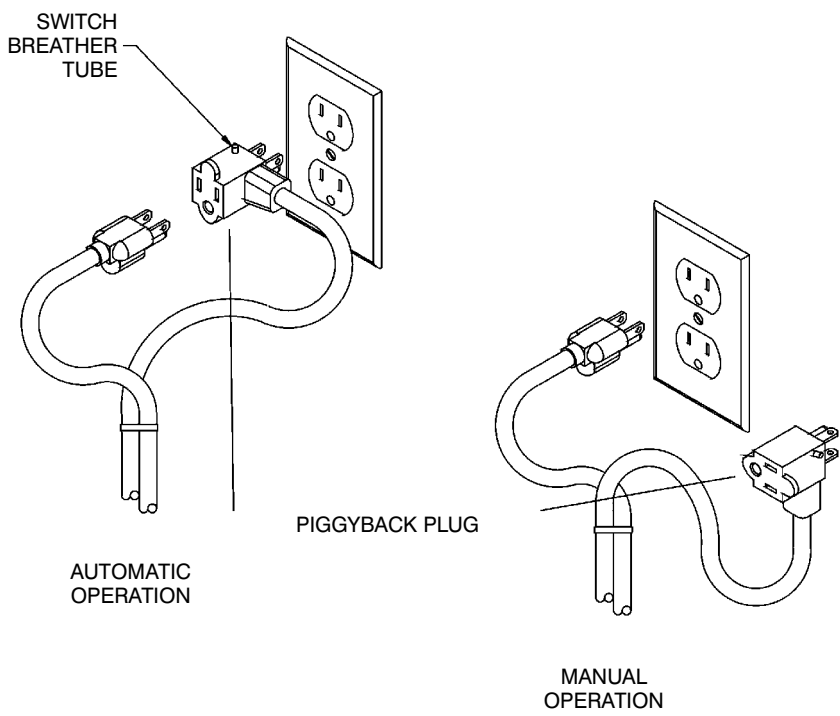

FIG 1
1. Your pump is supplied with a 3-prong electrical plug. The diaphragm switch on APCP models is supplied with a 3-prong piggyback plug/receptacle on the cord. The third prong is to ground the pump to prevent possible electrical shock hazard. Do not remove the third prong from the plugs. For automatic operation, plug pump plug into piggyback receptacle, then plug piggyback plug into properly grounded outlet. For manual operation, plug pump directly into properly grounded outlet. These connections are illustrated in Fig. 1.
4. Switch cord contains a small white breather tube which extends out of switch plug (see Fig. 1). Be sure switch cord is not pinched and non-restrictive air flow can occur in breather tube. Do not allow water to enter into breather tube. Non-restricted air flow is required for proper switch operation.
Pump plugged directly into outlet.	See Figure 1